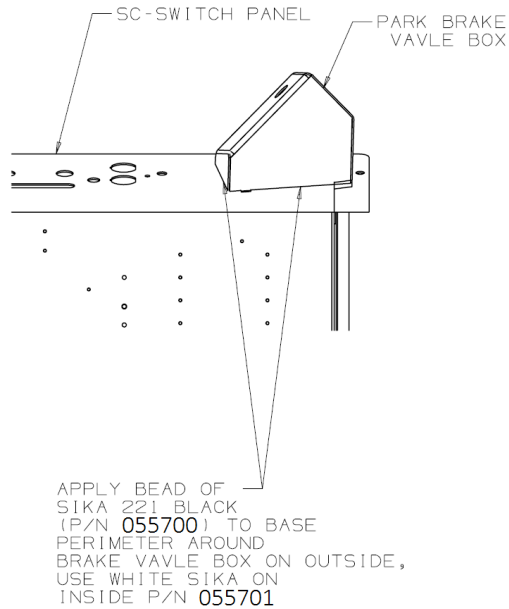

Figure 3: Apply Black Sika to Seal the Outside of the Brake Valve Box
- i. Apply a bead of black Sika (NF PN 055700) around the perimeter of the park brake riser box on the top of the side console panel and tool to a smooth finish. See Figure 3.